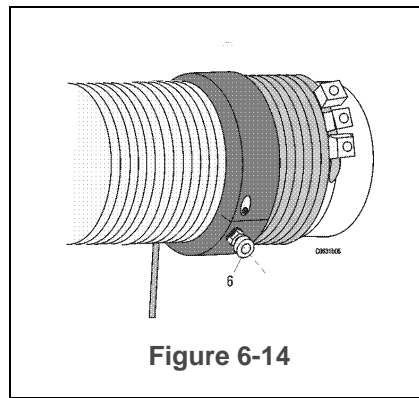

Figure 6-14
- Bolt stop with bearing and conical spring washer (6) to the rope guide (see Figure 6-14).